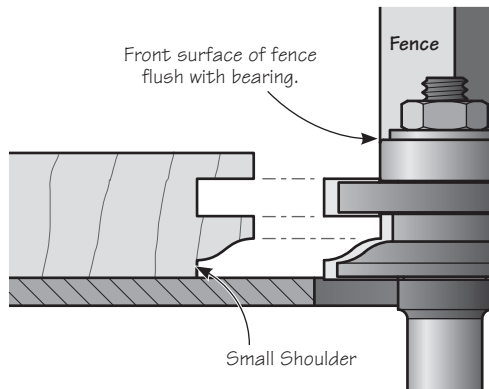

Figure 6: Set-up for sticking cut.
- Adjust the height of the bit so that a small shoulder will be cut on the inner face of the frame pieces (see **Figure 6**). Set the router table fence flush with the pilot bearing. Rout the inner edge of all the frame pieces (stiles and rails) and both long edges of the mullions and cross-rails.